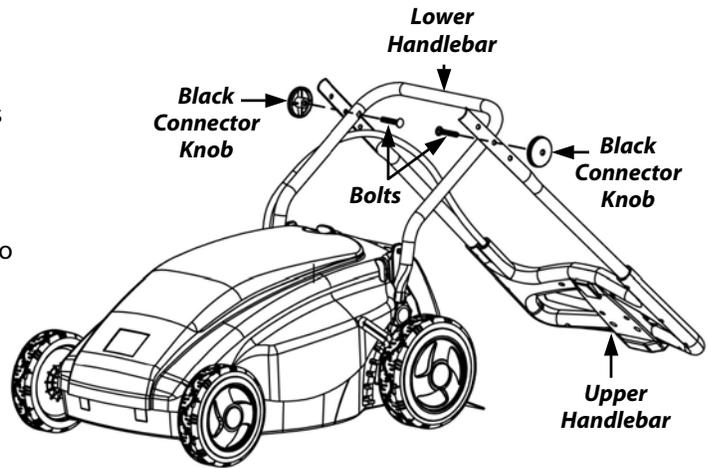

Figure 5
TIP Let the Upper Handlebar Assembly lean on the ground during this process (**Figure 5**). It is easier to start with the Upper Assembly in this position, so you don't have to hold and balance it while connecting the sections.
3. Slide the Connector Bolts (from the inside of the Handlebars, outward) through the predetermined holes in the Upper and Lower Handlebars on each side of the Mower and lightly screw on the black Connector Knobs just enough to hold the Upper and Lower Handlebar sections together (**Figure 5**).